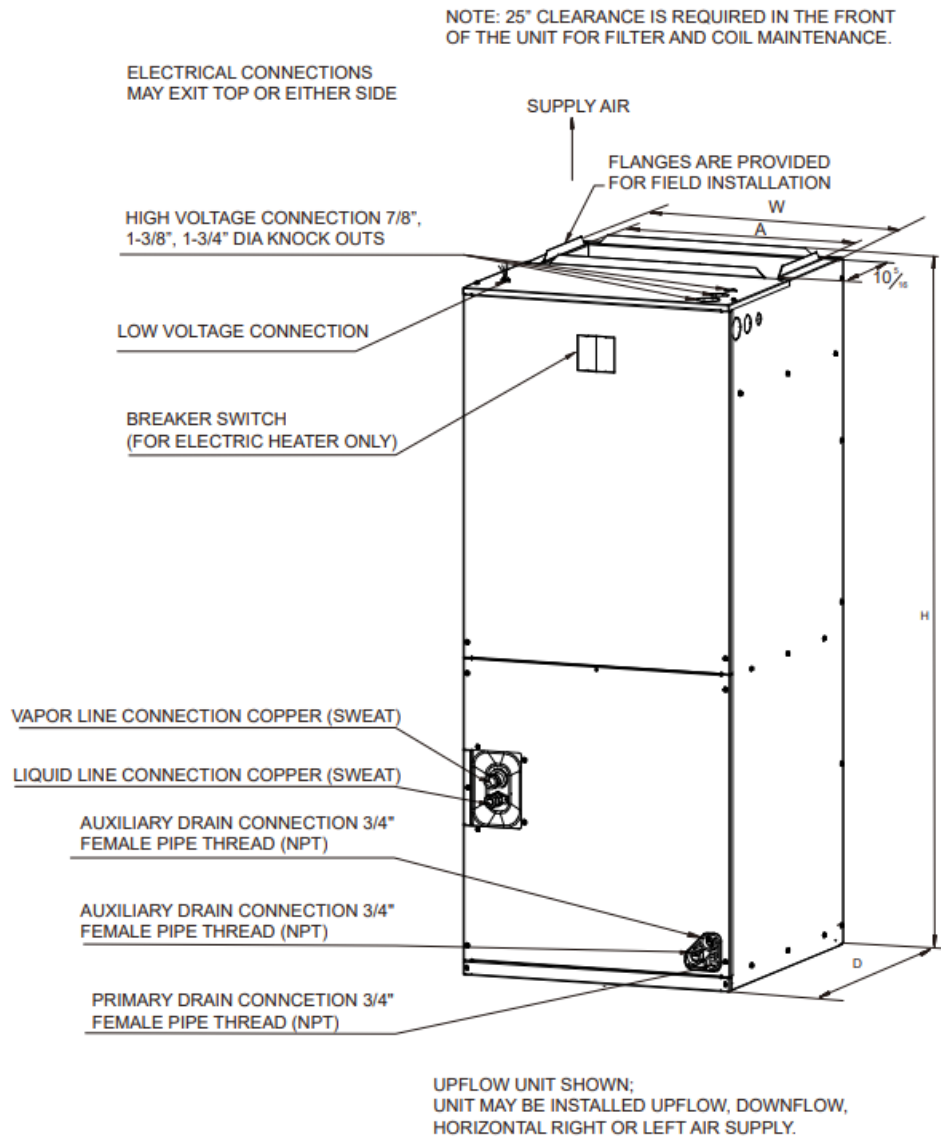

Fig.2-5 DIMENSIONS
- Top and side power and control wiring, accessible screw terminals for control wiring all combine to make the installation easy, and minimize installation cost. See Fig.2-5.
- Upflow is default factory configuration. See Fig.2-5.
Torque applied to drain connections should not exceed 15ft.lbs. See Fig.2-5 & 3-1.
- Low voltage control connections are made to low voltage pigtails extending from top of air handler (upflow position – see Fig 2-5).